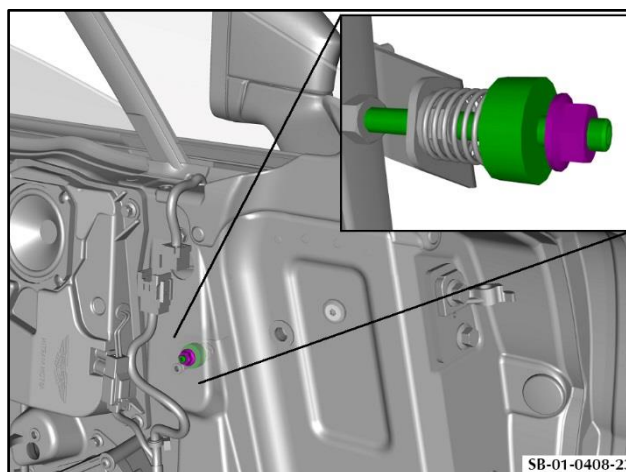

Figure 41
30. Loosen the nut and adjust the adjustment screw one turn at a time (refer to Figure 41).